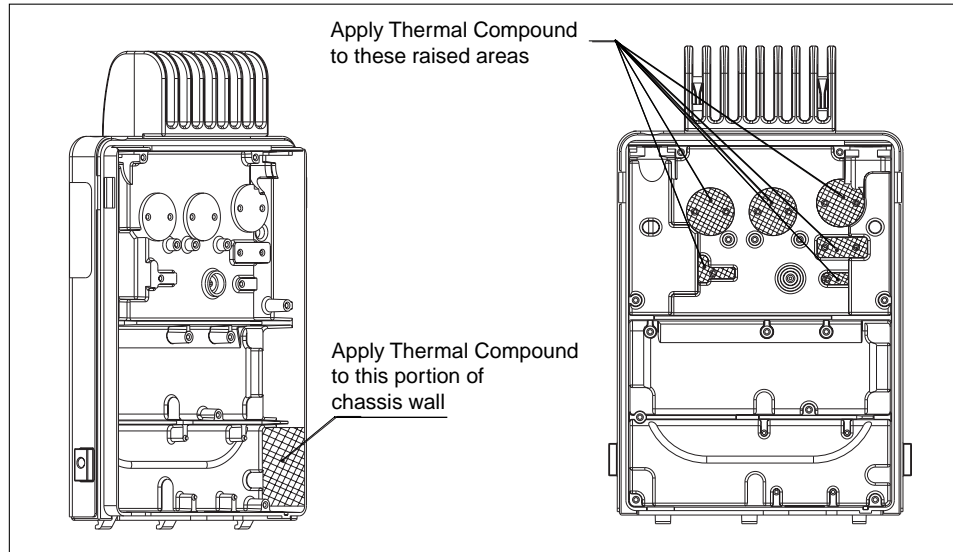

Figure 5-17 Wakefield / Thermal Compound Application Area
1. Inspect and reapply a thin coat of thermal compound as necessary to the heatsinking pads, voltage regulator and Audio PA areas in the chassis per Figure 5-17. A thick coat of thermal compound may negatively effect heat sinking.